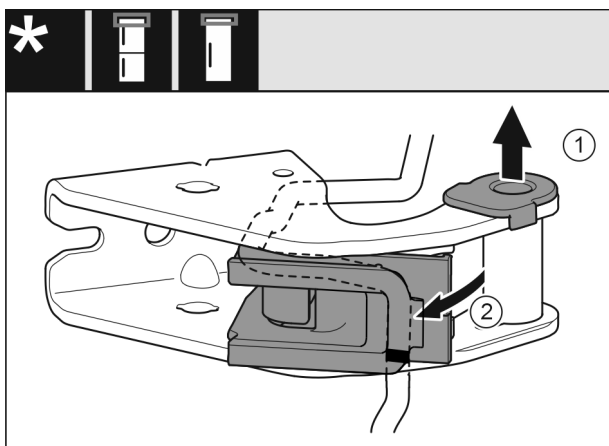

Fig. 26
- Pull the bearing bush out of the guide. Fig. 26 (1)
- Swing the cable holder out. Fig. 26 (2)